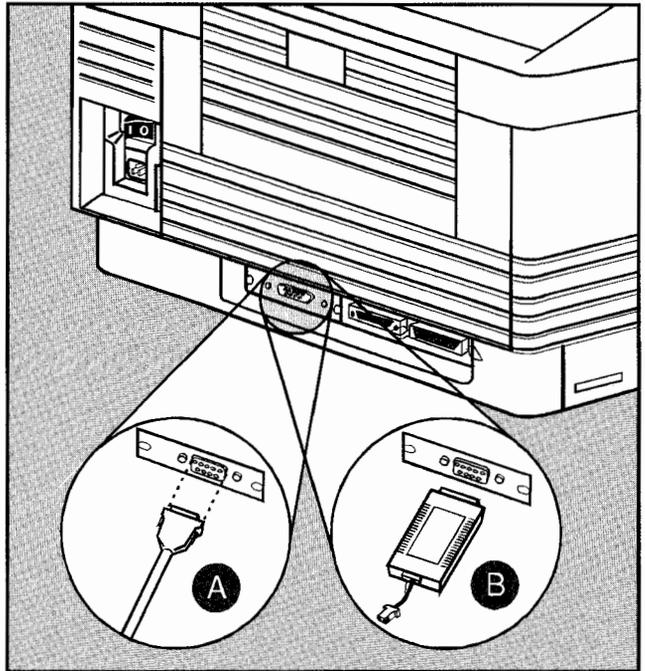

Figure 3-23. Connecting the Printer to the Network
1. Connect the printer to the network. To connect the printer, plug the Token Ring adapter cable from the adapter card's 9-pin DB-9 port to the Token Ring wiring concentrator on the network. (See Figure 3-23).
- a. If your network uses shielded twisted-pair cable, use an adapter cable which supports both 4 and 16 Mbps. See (A).
the 4 Mbps data rate over unshielded twisted-pair media. See ⑥ in Figure 3-23.